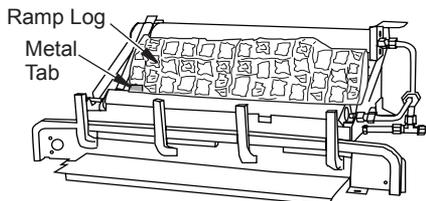

Figure 39 - Installing Fiber Ramp Log
- Place fiber ramp log in center of chassis as shown in Figure 39, page 23. The fiber ramp log can be identified by the shape and much lighter weight when compared to the other logs. The log must sit flat on the black sheet metal and behind the left metal tab as shown. Make sure the side marked "BOTTOM" is setting down.